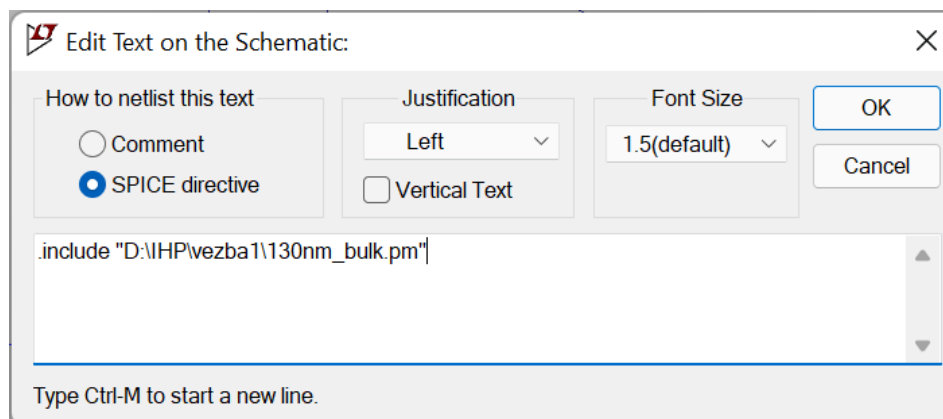

Fig. 5. SPICE directive settings
6. In LTSpice, clicking on the **.op** icon opens a window for entering SPICE directives. Enter *.include* and below the path of the file with the transistor model (Fig. 5). The model name is NMOS so it is not necessary to further change the model name on the schematic.